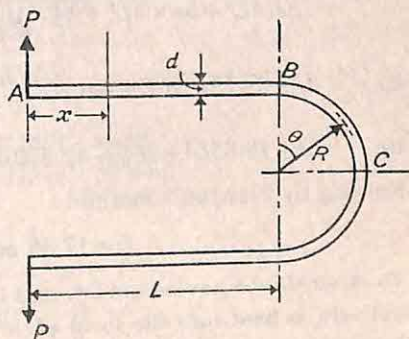

Fig. 41
21. A spring used in a measuring device is made of a rod of steel of diameter  $d$  bent to the form shown in Fig. 41 so that a force  $P$  applied to the ends of the spring will increase the distance between the ends by an amount  $\delta$ . Show that the stiffness of the spring